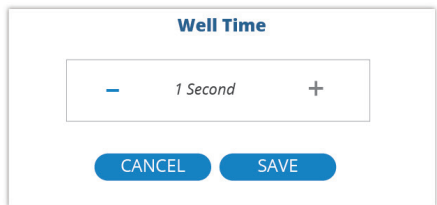

Fig. 26—Set the desired amount of time that the electrodes will be immersed in a well before taking measurements.
10. Setup the well time by selecting the *Well Time* menu. The well time is the number of seconds the electrodes are held immersed in a well before measurements are taken. The *Well Time* popup appears (Fig. 26). Enter the desired time in seconds and press *Save*. The updated value displays in the Current State area of the window.